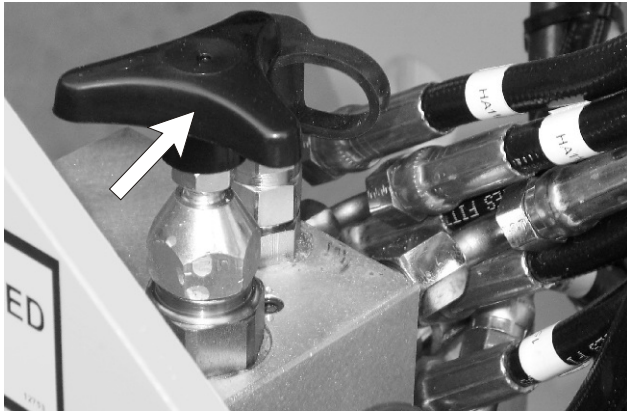

Figure 7.3 - Ground Controls, Emergency Bleed Down Control Valve
13. **Emergency Lower Control:** Allows the platform to be lowered in the event of an emergency (see Figure 7.3). See Chapter 11 "Emergency Operation" for details of emergency lowering procedures.